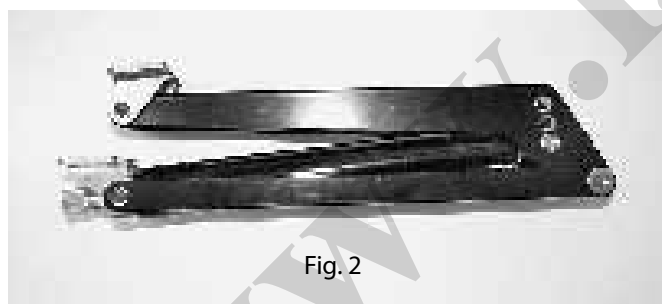
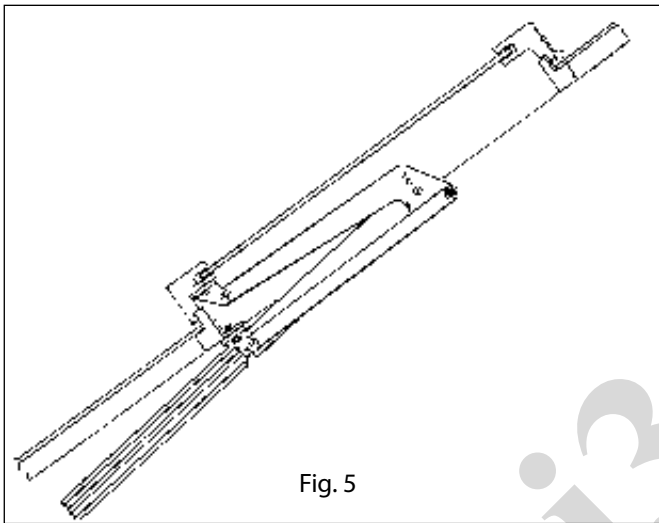

Fig. 2
Fig. 5
- I at the wall / outside the vent-opening: see fig. 2+5
- .1 Firstly you will have to choose in which direction you want the spring/shockabsorber – and later the cylinder- to face (see fig. 5+6). If it does not by delivery face in the desired direction, then you yourself can undo it and turn it a 180° (see fig. 2 + 3 + 4) before refastening it.
- .4 Turn the reliefbolt (relieves the springload during installation) until the arms all by themselves stay in the desired position for being fastened. Now the brackets can be fastened to the frame and the sill (see fig. 5 + 6), while the window or the lid is kept closed. Notice : the arms closest to the window should be parallel to it (see fig 5 + 6).